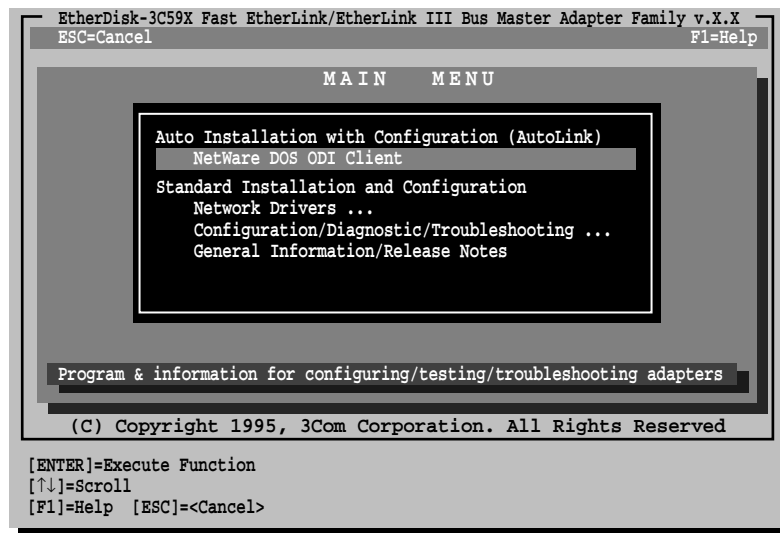

Figure 4-3 Main Menu
- 6 When the main menu screen shown in Figure 4-3 appears, select *NetWare DOS ODI Client*, and press [Enter].